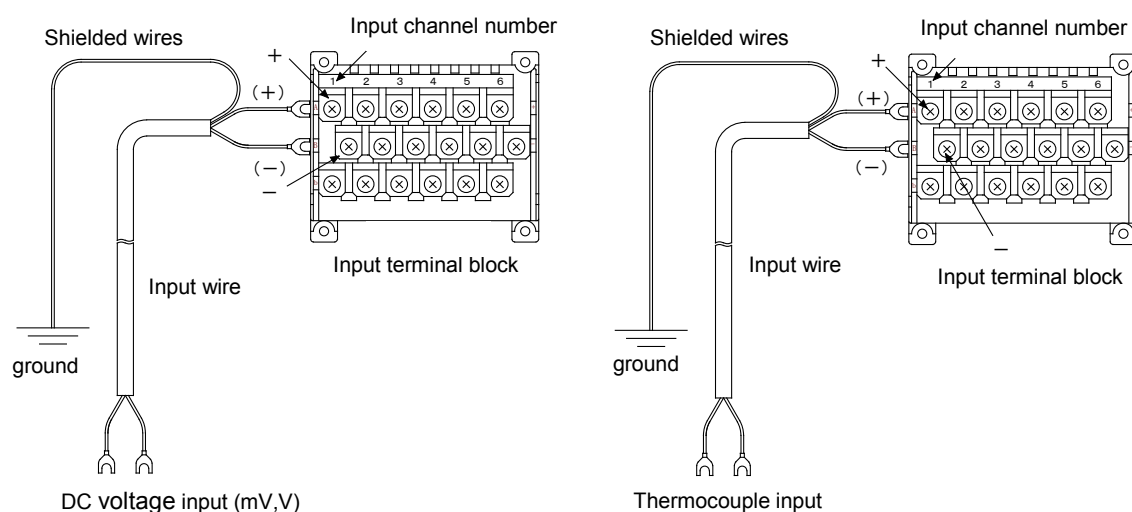

Figure 4.4 Input wiring (for mV, V, and thermocouple inputs) on 6-channel terminal block
- (1) Turn off the power to the recorder.
- (2) Remove the rear cover of the input terminal block.
- (3) Install input wires as shown in Figures 4.4 to 4.6.
- (4) Re-mount the rear cover.